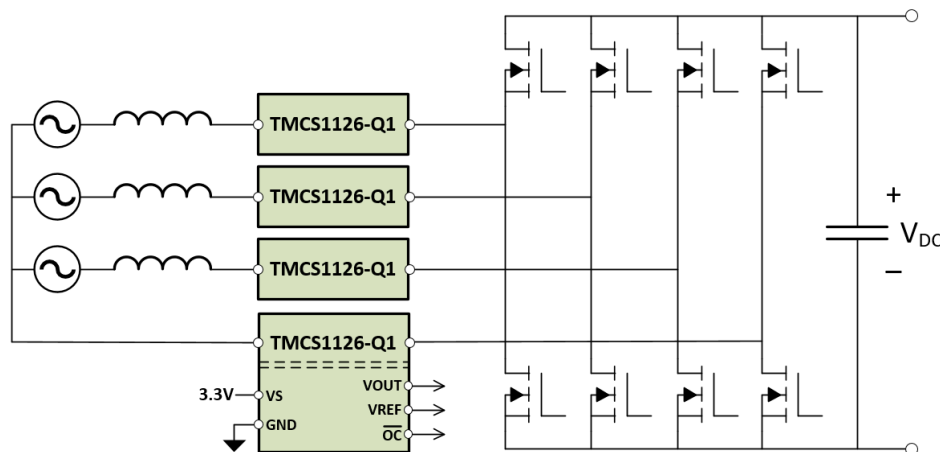

Figure 9-2. AC to DC Converter Current Sensing
In many applications, power must be converted from AC sources for use in DC circuitry. Some type of controlled power factor correction (PFC) stage is usually needed to improve power transfer efficiency. Faster and faster power switches are being used in modern PFC stages to reduce overall size and to improve power transfer efficiency. Often, the PFC stage of AC to DC converters is connected directly to AC power grids. A primary challenge to sensing in PFC stages is that the current sensor is subjected to large voltage spikes coming from the high-voltage (HV) power grid along with large transients coming from high speed power switches during charge transfer. Inherent isolation in the TMCS1126-Q1 construction helps overcome these challenges by providing high levels of isolation between the HV current sensing nodes and low-voltage control circuitry, with high common-mode transient immunity (CMTI). Figure 9-2 shows the use of the TMCS1126-Q1 measuring phase currents in a common AC to DC converter stage.